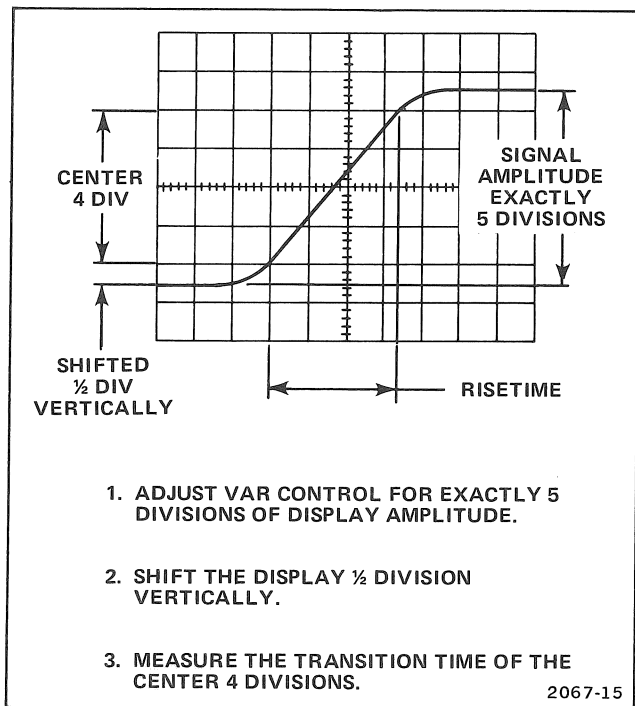

Figure 3-3. Risetime.
d. Using the oscilloscope vertical position control, shift the display 1/2 division (see Fig. 3-3).
e. Measure the displayed risetime (system risetime) and record for use in part m. of this check (see Fig. 3-3).
k. Using the oscilloscope vertical position control, shift the display 1/2 division vertically (see Fig. 3-3).
l. Measure the displayed risetime and record for use in part m. of this check (see Fig. 3-3).